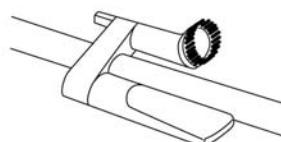

Fig. 9
Located on the extension tube, the accessory caddy allows you to store your accessories within your reach. No more hunting for the dusting brush or crevice tool, the accessory caddy keeps your vacuum accessories at your fingertips. (Fig. 9)
4. Keep Air Driven Turbo Brush turbine free of dirt and foreign matter. (See Fig. 9 and cleaning instructions)
4. Gardez la turbine de la brosse turbo entraînée à l'air libre de saletés ou d'autres matières encombrantes. (Voir Fig. 9 et les instructions de nettoyage)